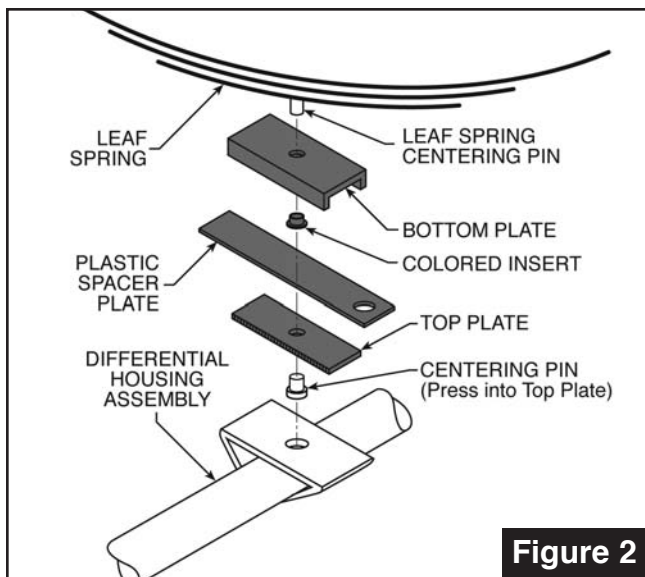

Figure 2
- For those vehicles where the leaf spring is above the differential housing, refer to *Figure 2*.